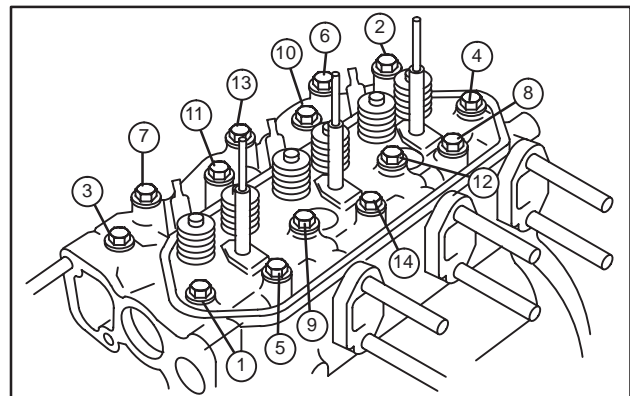

Fig. 8 – Loosen Cylinder Head Bolts
6. Remove cylinder head assembly, Fig. 8.